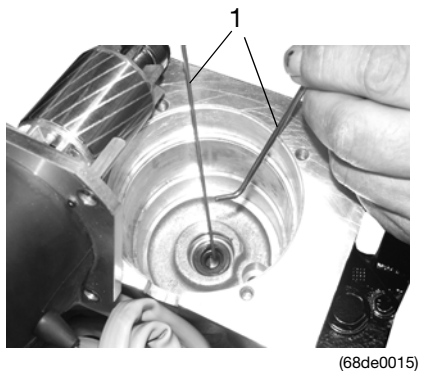

Fig. 7:
Once the stator is out, use two appropriate hooks (1) to pull the motor sealing ring (2) out; see fig. 7.